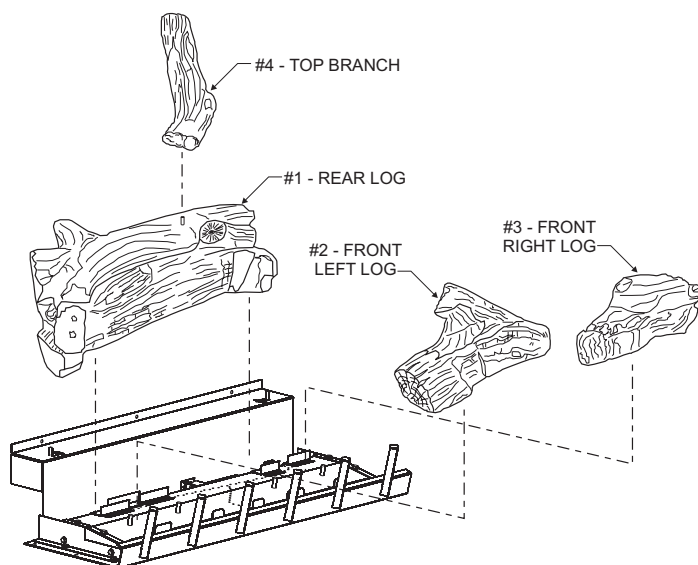
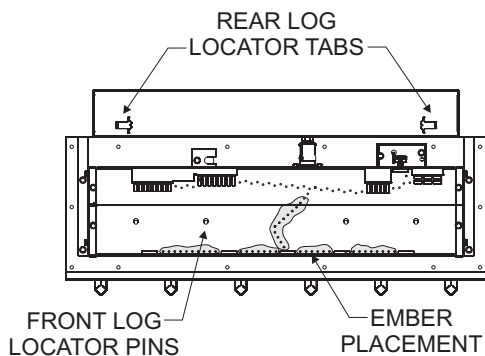

Figure 20
Figure 18
The positioning of logs is critical to safe and clean operation of this fireplace. Sooting and other problems may result if the logs are not properly and firmly positioned in the fireplace. Please refer to **Figure 18**, **Figure 19**, and **Figure 20** and corresponding WARNING, when completing the following log placement steps.
4. Place rear (#1) log onto two (2) pins on rear log support.
5. Place left, front (#2) log onto two (2) left, front pins on burner pan.
6. Place right, front (#3) log onto two (2) right, front pins on burner pan.
7. Place Branch (#4) onto one (1) pin on rear log
9. After all logs are properly positioned, place small "dime" size pieces of Rockwool lightly across the front round "blueflame" ports. Place the ember material (Rockwool pieces) side by side. Do not stack more than one layer of embers across the burner ports. **See Figure 18.**